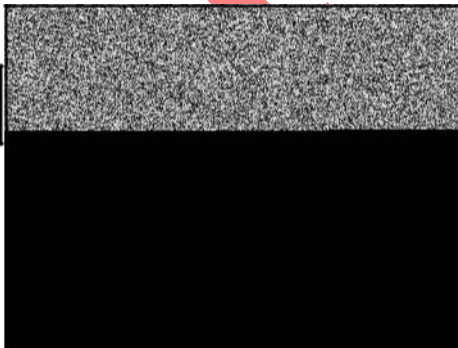

Figure 2
2. Remove the two retainer pins (A, Figure 2) with needle nose pliers.